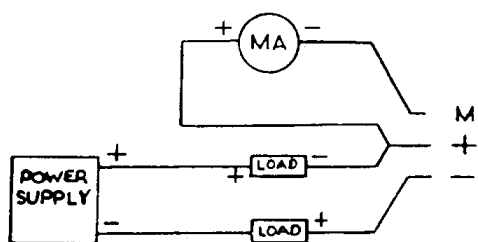

FIG. 3-1 External Wiring
Connect appropriate DC power source in series with load to (+) and (-) VDC terminals. For detailed wiring instructions refer to FIG. 3-1.
- b. Connect a DC power supply in series with appropriate load and current meter to (+) VDC and (-) VDC terminals as shown in FIG. 3-1. Allow 10 minutes minimum warm-up before final calibration.